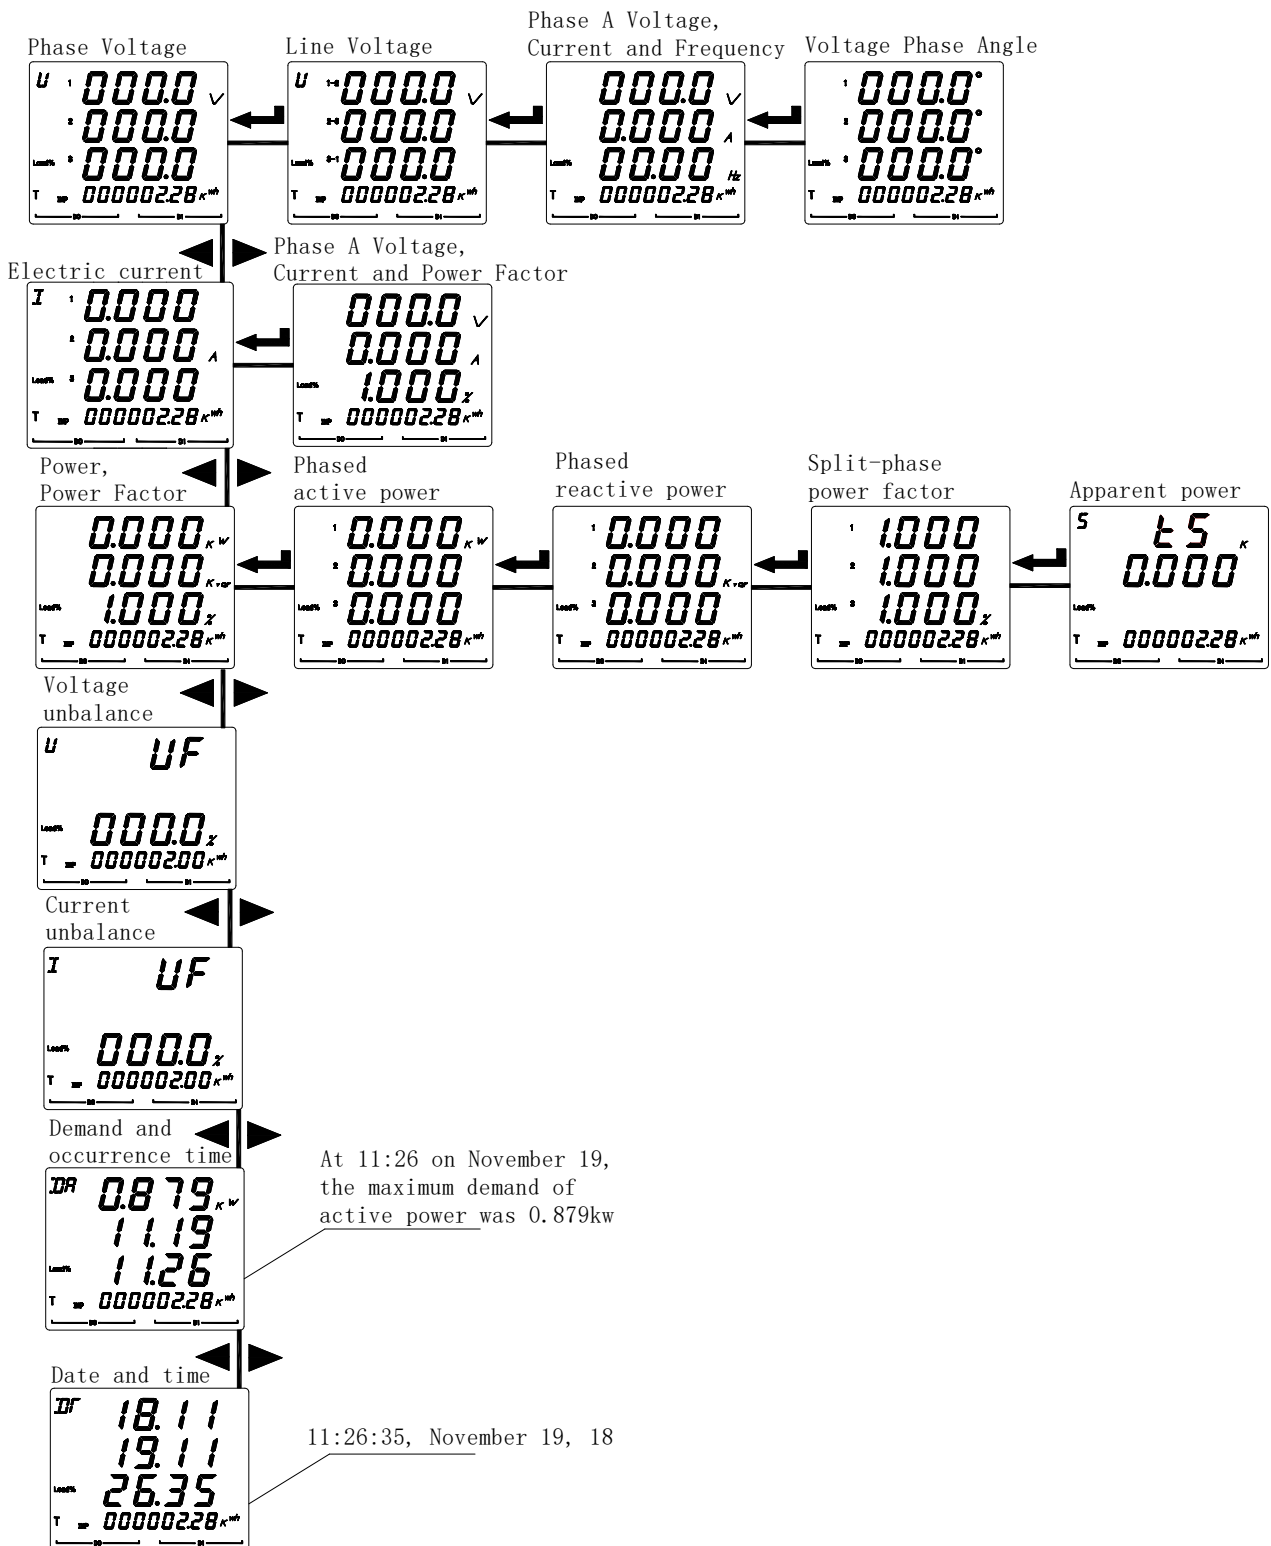

Figure 21
5.2.4 View the power parameters of the PZ72L/80L/96L as shown in Figure 21,22.